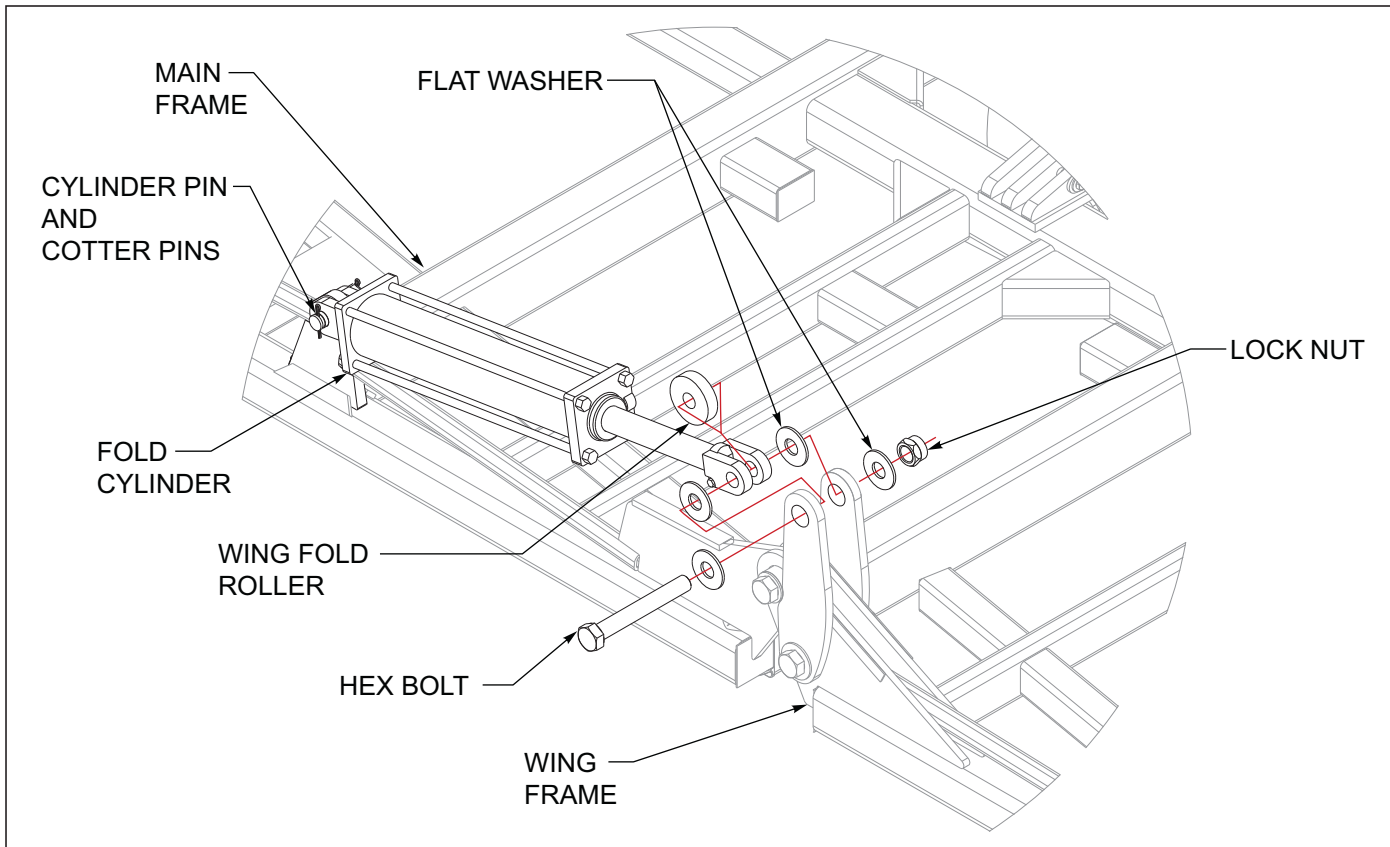
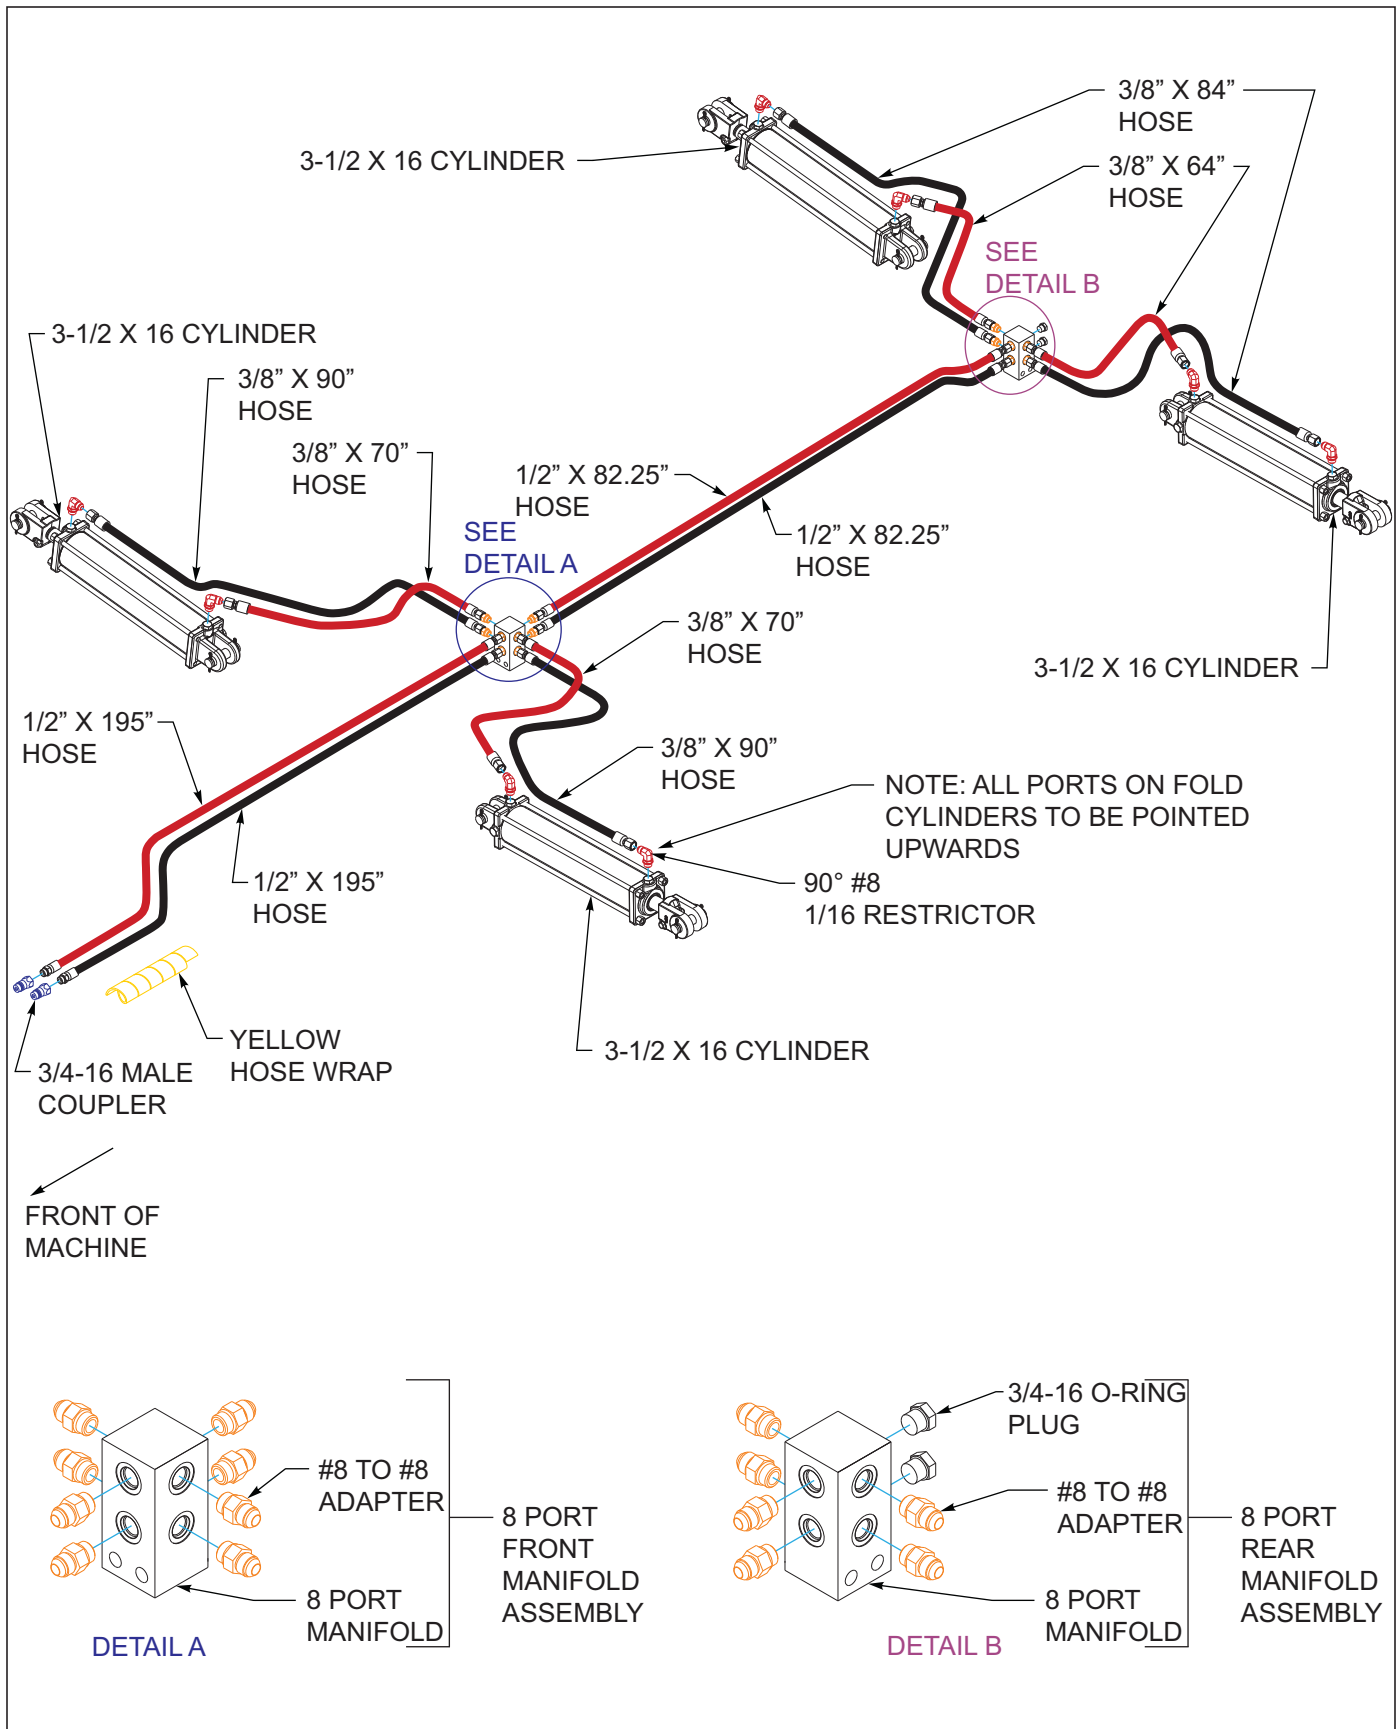

Figure 3-21: Hydraulic Fold Installation
Figure 3-22: Hydraulic Fold Installation 877-30'
1. Install base end of fold cylinders to the main frame cylinder anchors using cylinder pins and cotter pins provided *See Figure 3-21*. Model 877-30' fold cylinders are to be installed with ports facing upward. Models 877-35'-40' cylinders are to be installed with the ports facing the rear of the machine *See Figure 3-22 and 3-23*.
3. On 30' models, *only after the fold cylinders have been charged with oil*, assemble the rod end of the fold cylinder to the wing fold plates and wing fold roller using 1 x 7-1/2 bolts, 1" flat washers and locknuts. Use flat washers on both outside and inside of each wing fold plate *See Figure 3-21*.
4. On 35' and 40' models, *only after the fold cylinders have been charged with oil*, assemble the rod end of the fold cylinder to the wing fold plates and wing fold roller using 1-1/4 x 8 bolts, 1-1/4 flat washers and locknuts. Use flat washers on both outside and inside of each wing fold plate *See Figure 3-21*.
6. Install fold cylinder hoses and couplers *See Figure 3-22 and 3-23*. Model 877-30' wrap fold cylinder hoses with yellow hose wrap. Models 877-35'-40' wrap RH fold cylinder hoses with yellow hose wrap and LH fold cylinder hoses with black hose wrap.